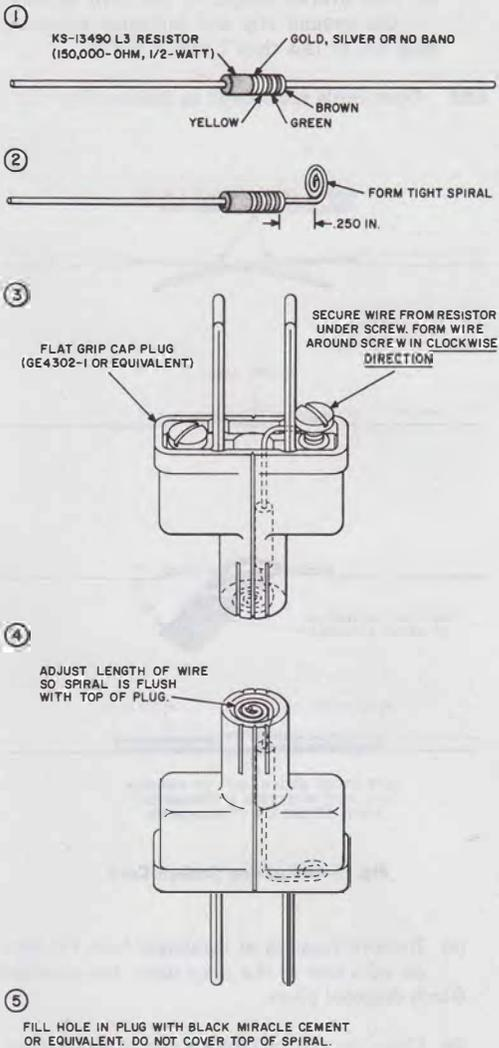

Fig. 4—Voltage Test Plug
**2.04 Voltage Plug:** A voltage plug is to be made up locally (Fig. 4) to provide a safe and convenient means to verify that the B-Voltage Tester is in good working order. When plugged into a standard 110-120 volt convenience outlet, it provides a voltage in series with a current-limiting resistor. As illustrated, the resistor is connected to only one prong of the plug which must be inserted into the hot side of the outlet. Normally, the hot side may be identified as being the smaller of the two parallel slots in the outlet.